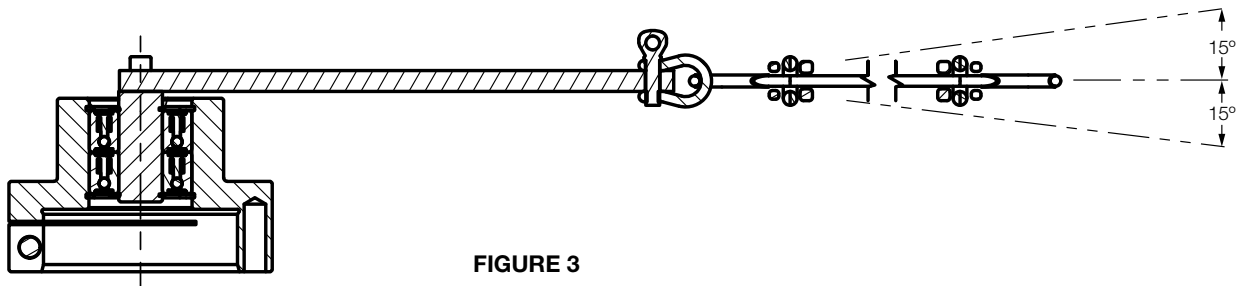

FIGURE 3
6. Attach the retaining cable assembly to the housing of the fan or to another rigid structure and make sure that the cable does not interfere with the moving parts of the fan. Make sure that the cable is perpendicular to the shaft within 15 degrees as shown in Figure 3 and 4.